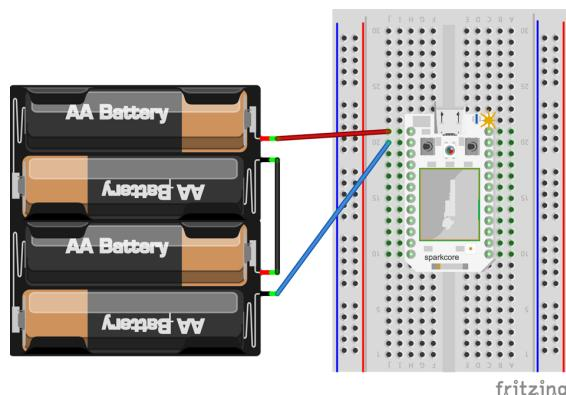

Figure 3-15 Wiring for Spark test
3. Connect the black wire from the battery pack to GND on the Spark. If you hold the Spark so that the USB port is facing up, VIN and GND will both be on the top left of the board. Figure 3-15 shows how it should be wired.